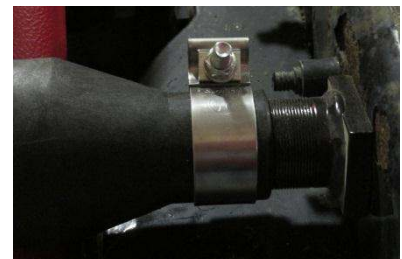

Figure 17
- b. Position the PB5054 tube clamp 1/4" inside the edge of the paddle bracket as shown in Figure 17.